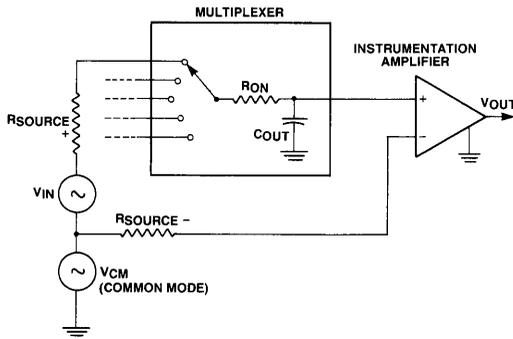
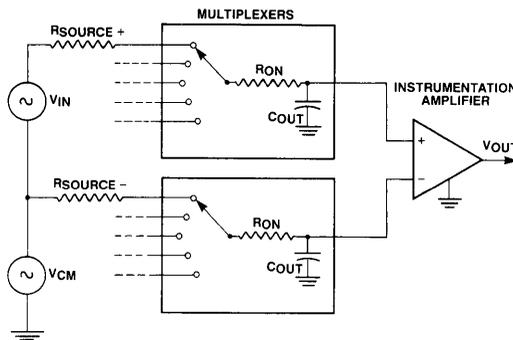

Figure 5. Pseudo-Differential Connection Degrades Common Mode Rejection
Figure 6. Balanced Differential Approach Preserves Common Mode Balance
2. R_i and C_f are designations from Figure 5.
The 12-bit DAC system described above can be upgraded to 14 bits by using Hybrid Systems' HS 3140. The HS 3140 is a single chip DAC implemented using decoding and binary weighting. The improved DAC performance has been discussed above. Monotonicity is guaranteed from $-25^{\circ}C$ to $+85^{\circ}C$ and the specified stability of 1ppm/ $^{\circ}C$ Max. is not matched by competitive devices. The diagram in Figure 10 can be used along with external input latches shown in Figure 6.
2. The CMRR of the instrumentation amplifier may be effected by the circuitry around it. A "pseudo differential" setup in which all inputs share a common remote signal ground, can reject general differences between input signal ground and measurement system ground (Figure 5). It does not, however, possess individual differential input signal pairs. This can cause low CMRR particularly at high frequencies. This is because the sum of the source resistance, multiplexer channel resistance, and multiplexer output capacitance form an RC pole. This attenuates any common-mode signal on the + input. A truly differential approach (Figure 6), contains an RC pole in each input lead, preserving the common-mode balance. This does assume that the + input and - input source resistors are kept balanced.